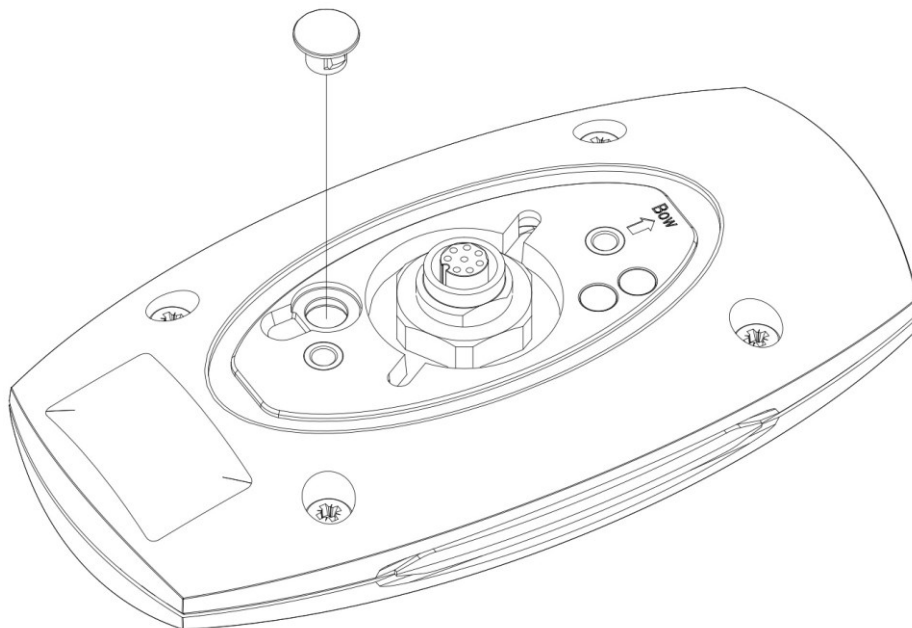

FIGURE 8: POLE MOUNT INSTALLATION STEP 2 (REMOVE CAP FOR DIP-SWITCH SETTINGS)
- Standard (figure 8-pattern) default See *Standard (figure 8-pattern)* on page 33